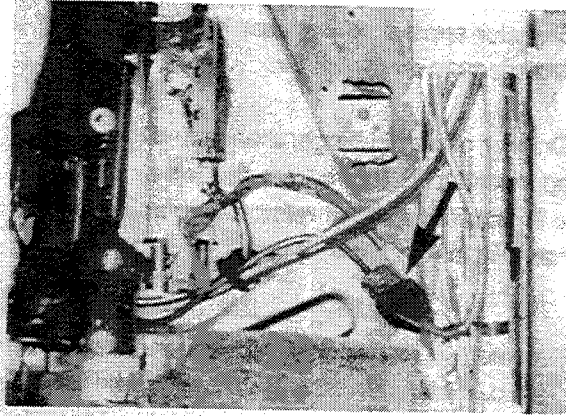

Figure 20
22. Remove plastic cover by door sill. Connect 2 m cable to handset connector (arrow, Figure 20). Place connection under plastic cover and replace cover.